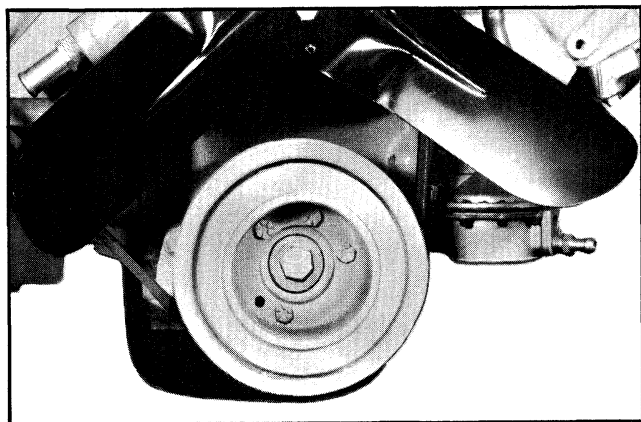

Fig. 6-117 Harmonic Balancer
2. Position fan so wide angles will be at top and bottom allowing access to balancer (Fig. 6-117).